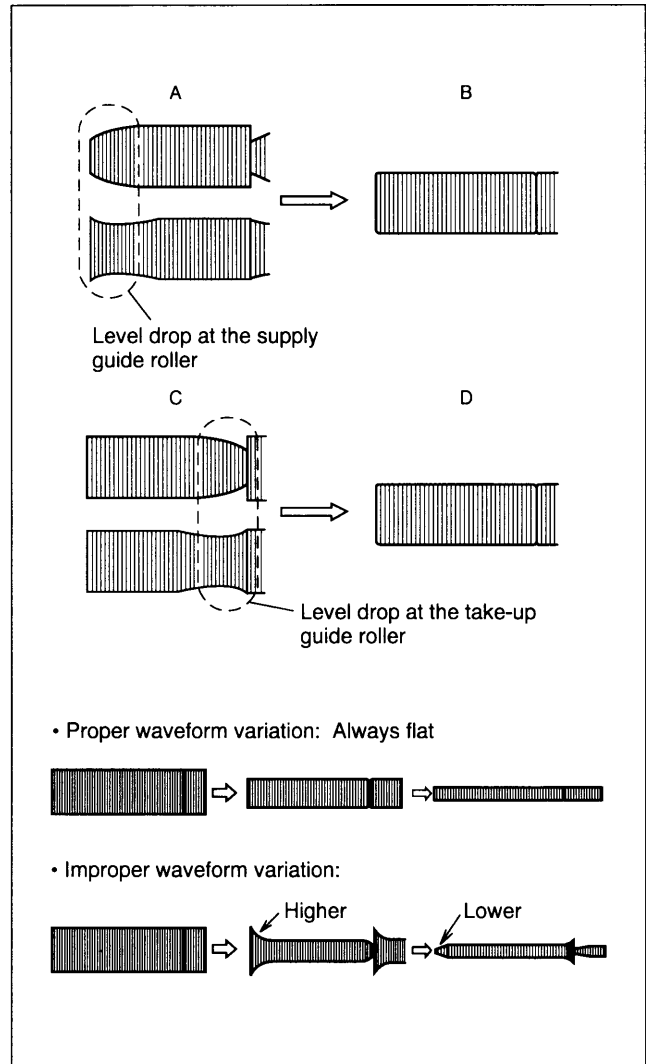

Fig. 2-4-3
- (6) Reduce the FM waveform while pressing the channel buttons (▲, ▼) during playback. If a drop in level is found on the left side as shown in Fig.2-4-3, turn the guide roller of the pole base assembly (supply side) with the roller driver to make the FM waveform linear. If a drop in level is on the right side, likewise turn the guide roller of the pole base assembly (take-up side) with the guide roller to make it linear. (Fig.2-4-3)
- (7) Then play alignment tape (LP) and make sure that the FM waveform varies in parallel and linearly with the tracking operation. When required, perform fine-adjustment of the guide roller of the pole base assembly (supply or take-up side).
- (8) After adjustment, tighten the set screw under the pole base assembly. (Take care not to tighten too much)
- (9) After tightening the set screw, play the alignment tape (SP) and (LP) again to make sure that the FM waveform has correct variation.